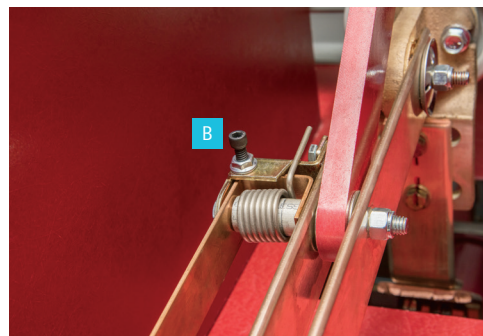

Figure 68: Arcing-blade adjusting screw
Note: If any corrections to the quick-acting blade position are necessary (after all previous steps have been completed), they may be done by loosening the locknut on the arcing-blade adjusting screw (see Figure 68) and turning screw either in or out to obtain positioning of quick-acting blade. Re-tighten locknut.
2. Connect a spring scale to the main blades approximately 1-1/2" below the jaw contact as shown in Figure 68: Use of spring scale for switch blade adjustment on page 103.